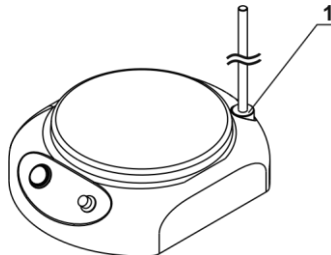

Figure 1. Detachable stand for MMS-3000
- 4.4. **Detachable stand installation (MMS-3000).** Remove the screw on the fixing socket at the stirrer back (fig. 1/1) and retain for future use. Screw the part of the stand with the counter-nut into the fixing socket and secure with the counter-nut. Screw in the second part of the stand into the attached first part.